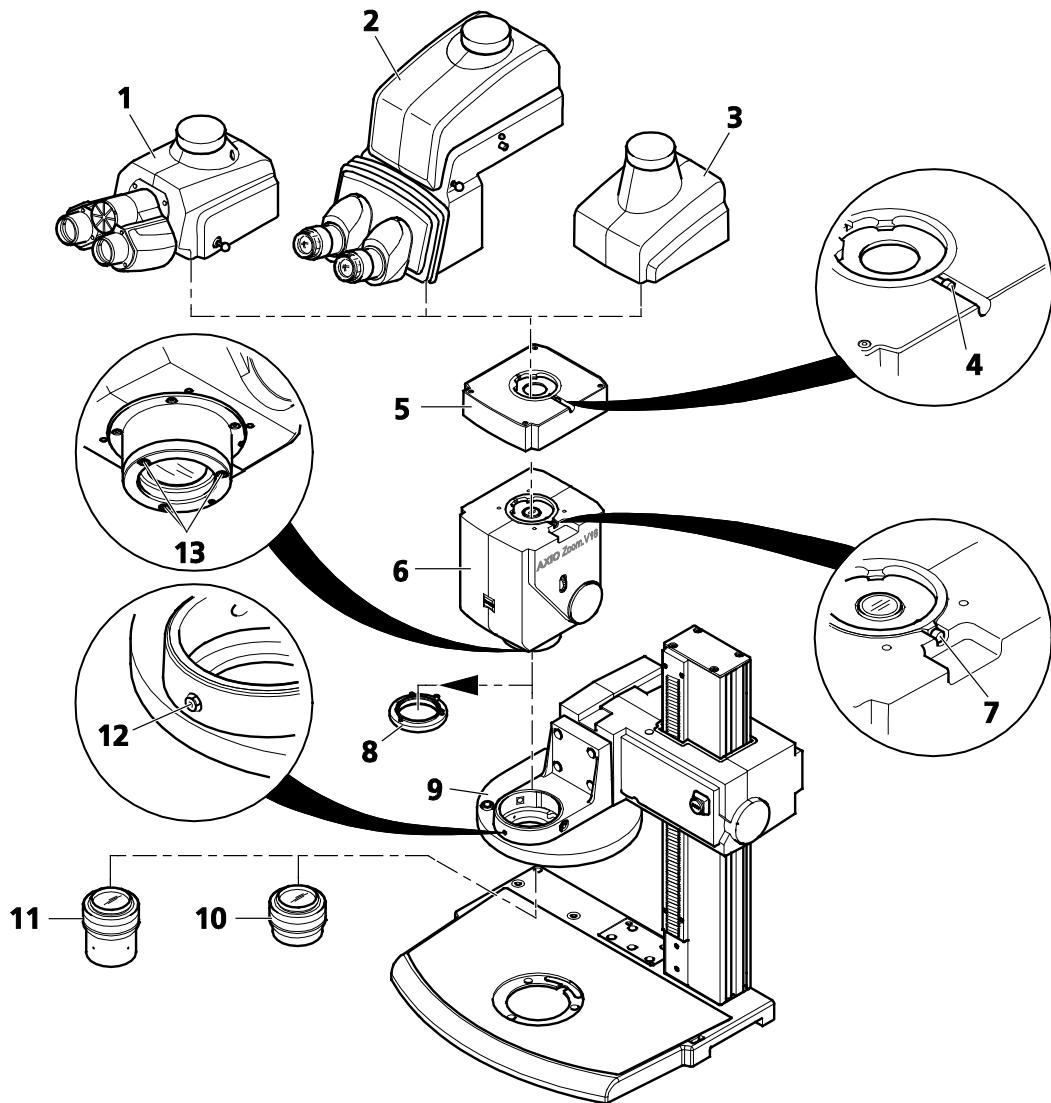

Fig. 6 Mounting the microscope
- !** If the nosepiece is used, the threaded ring (Fig. 6/8) on the front lens of the microscope body must be removed. To do this, unscrew the three captive socket head screws (Fig. 6/13).
- Insert the body of the microscope (Fig. 6/6) into the mount (\varnothing 76 mm) of the carrier or nosepiece (Fig. 6/9), align it and hand-tighten it (Fig. 6/12).
- Screw the objective (Fig. 6/10) counterclockwise into the body of the microscope until it engages. Screw a second objective (Fig. 6/11) into the nosepiece as required.
- Insert the tubes (Fig. 6/1, 2, 3) or intermediate tubes (Fig. 6/5) with dovetail mount into the body of the microscope and hand-tighten it with a socket head screw (Fig. 6/7 or 4) using a ball-head screwdriver.
- ☞ Either an intermediate tube (spacer tube, Fig. 6/5) or Fluar Illuminator Z mot.) may be mounted between the body of the microscope and the binocular phototube. This increases the eyepoint height by 40 mm.